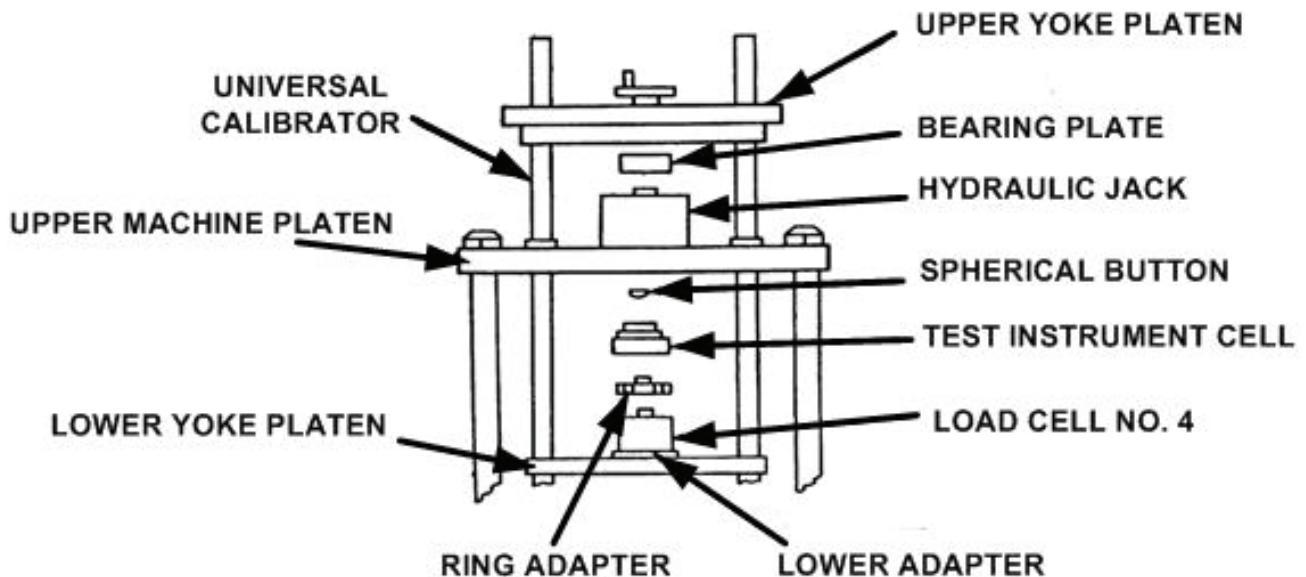

Figure 5. System equipment setup - alternate technique (reference).
(3) If 24 V dc is used as power source, operate **BATTERY VOLTAGE** switch and check polarity. If meter indication is in yellow area, change leads and operate **BATTERY VOLTAGE** switch again. If meter indication is in red area, battery voltage is either too high or too low and should be replaced.
(4) Allow sufficient time for equipment to warm-up and stabilize.
(5) Set up equipment as shown in figure 5. Use load cell No. 4 with compatible spherical button and TI cell No. 1 (red).
(6) Bolt LOWER ADAPTER (fig. 5) to bottom of load cell No. 4. Mount on LOWER YOKE PLATEN (fig. 5).
- (16) Make sure that lower adapter (fig. 5) is tightly attached to load cell No. 4 after pressure is released.
(17) Set TI **INITIAL LOAD** switch to **10** and **WEIGHT** dial to 5000 pounds.
(18) Apply load for null condition as indicated on TI balance meter. If indication on load cell is not between 14,962.5 and 15,037.5 pounds, perform **b** below.